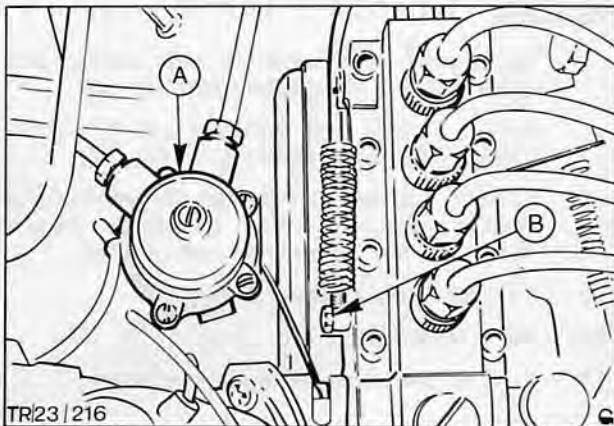

Fig. 55. Fuel injection pump
49. Bleed fuel filter and injection pump, Fig. 55. Detailed in Operation 23 142.